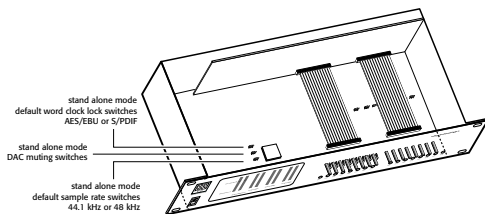

Figure 1. jumper switch location in the 888/24 I/O
- 5 Inside the left-front of 888/24 I/O's chassis, near the large FPGA chip, is a set of three jumper switches, each with a removable cap. Each of these switches controls a different default function which is shown in Figure 1 and 2.
- 7 Place it in the position corresponding to the value that you desire. For a 44.1 kHz default sample rate, it should be placed over the right two prongs. For a 48 kHz default sample rate, it should be placed over the left two prongs. Refer to Figure 1 and 2 for details.
Refer to Figure 1 and 2 for details on jumper switches and their default positions.
7 Place it in the position corresponding to the value that you desire. For an AES/EBU word clock lock port, it should be placed over the right two prongs. For a S/PDIF word clock lock port, it should be placed over the left two prongs. Refer to Figure 1 and 2 for details.
☞ Refer to Figure 1 and 2 for details on jumper switches and their default positions.
5 Inside the left-front of 888/24 I/O's chassis, near the large FPGA chip, is a set of three jumper switches, each with a removable cap. Each of these switches controls a different default function as shown in Figure 1 and 2.
7 Place it in the position corresponding to the value that you desire. To mute the DACs, it should be placed over the left two prongs. To unmute the DACs (as in normal operation), it should be placed over the right two prongs. Refer to Figure 1 and 2 for details.